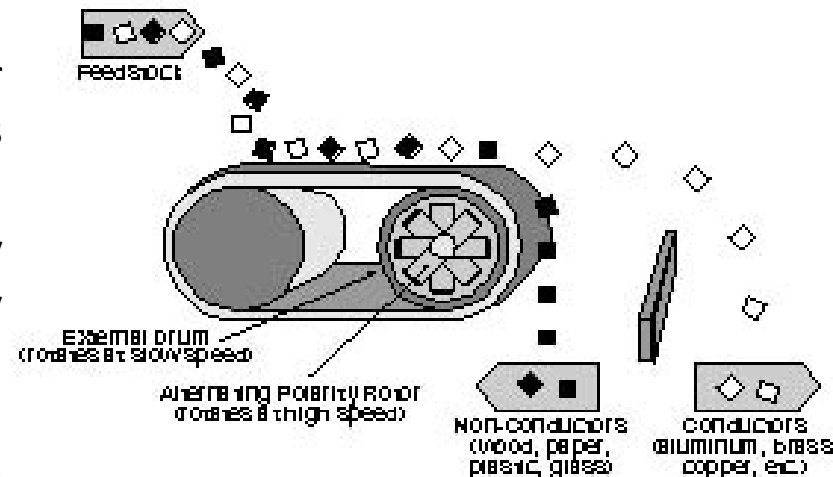

Figure 2.
**Eddy current separation (Figure 2):** This technology works by exerting repulsive forces on electrically conductive materials.